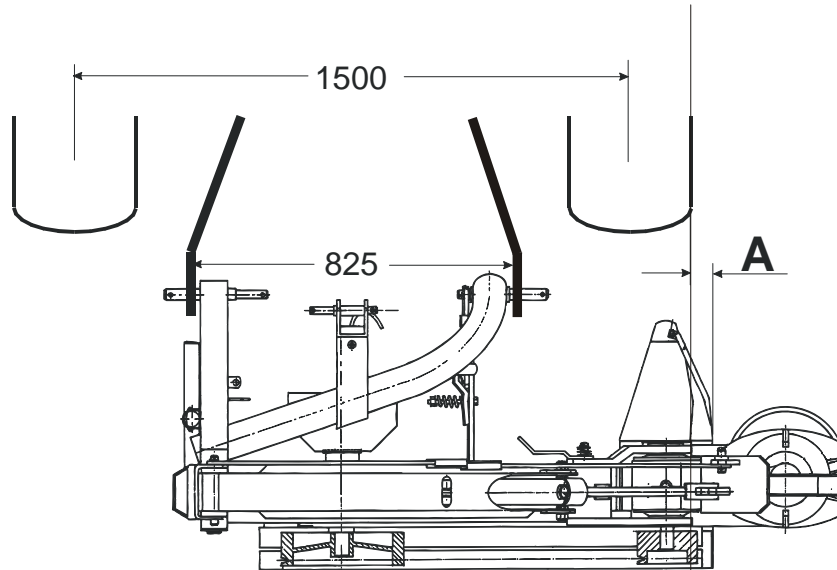

Fig. 2-1
- Fig. 2-1:** Connection of tractors with normal track width and category II 3-point suspension.